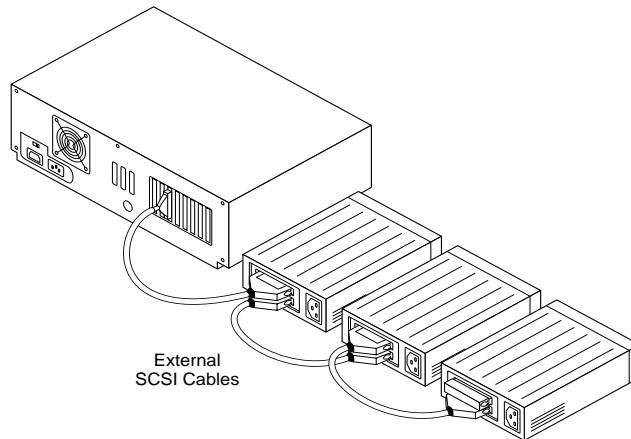

Figure 2-11. Connecting Multiple External SCSI Devices
- 3 To connect other external SCSI devices, daisy chain each device to the previous device until all external SCSI devices have been connected, as shown in Figure 2-11. (Again, the AHA-3940UWD's two external connectors are not shown.)